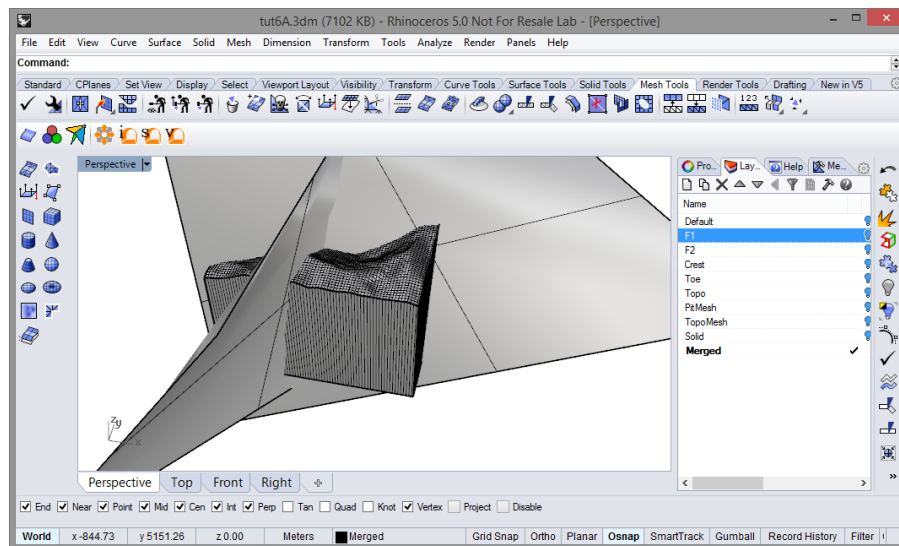

Figure 162: Faults and pit geometry in layer Merged.
1. Turn **Solid, F1** and **F2** on in the Layers Panel. Double-click the label of the Perspective view to maximize it. Select the solid and the fault surfaces and copy them into a new layer called Merged (similar steps to what you did previously when creating new layers). Make the Merged layer the only active layer (Figure 162).